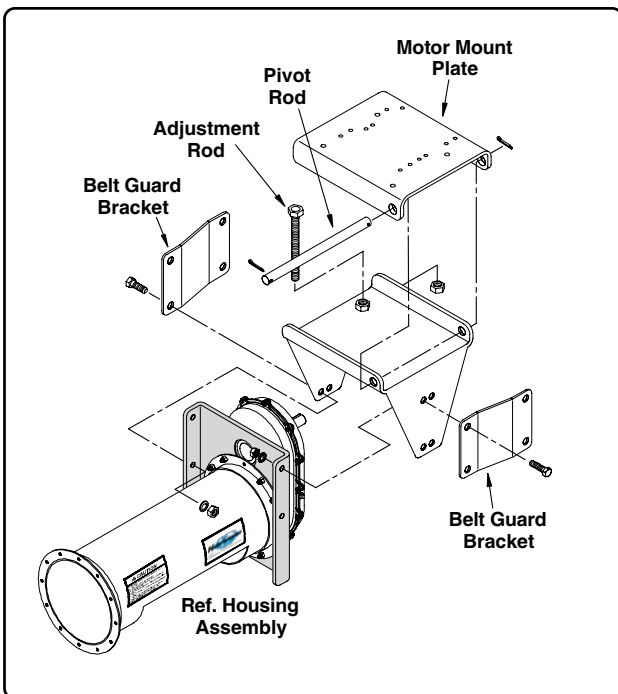

FIG. 6
Using the rear set of holes on the motor mount support, fasten the support and belt guard brackets to the head plate using four (4) 1/2" x 1 1/4" bolts, lock washers and non-lock nuts (See Fig. 6).